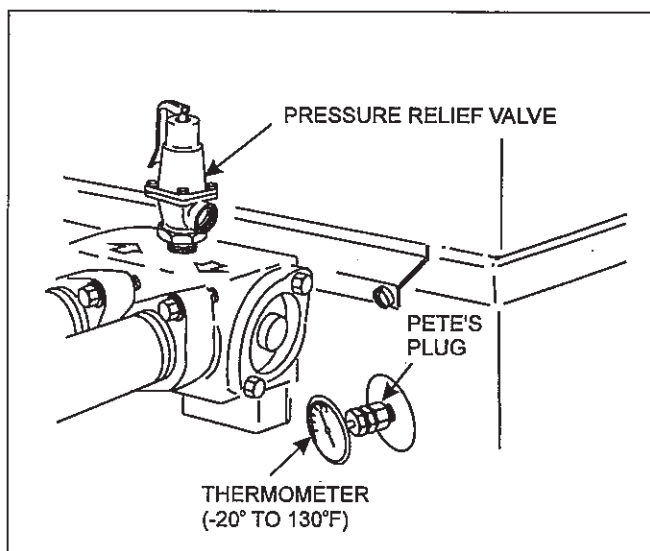

Figure 16. Thermometer and pressure relief valve.
To install a pressure relief valve, remove the 3/4 inch (19 mm) brass plug on the in/out header with the valve (see Figure 16). The setting of the valve should be at or below the lowest working pressure of filter system components.
4. Remove the drain plug located on the right-hand side of the heater and replace it with a Pete's plug (see Figure 16).
5. Insert a pocket thermometer (see Figure 16) through the Pete's plug into the header.
3. Insert a pocket thermometer (see Figure 16) through the Pete's plug into the header.